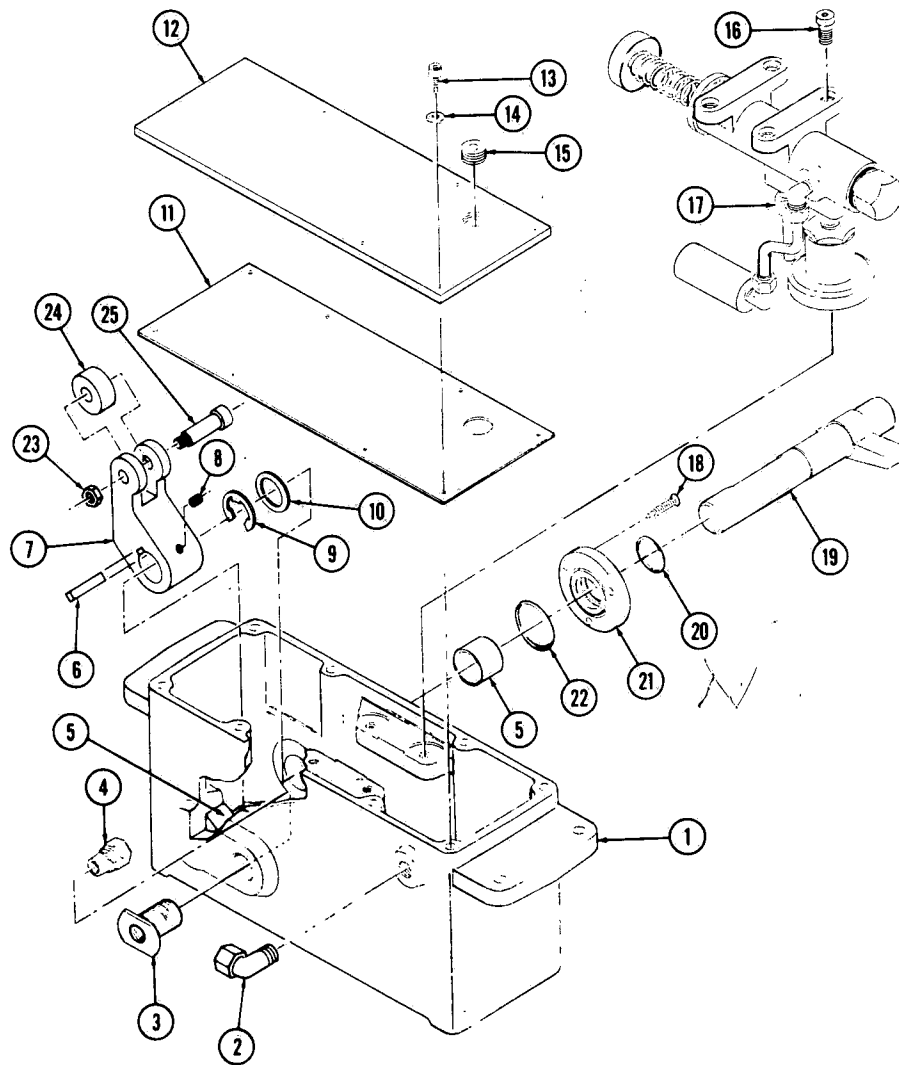

Figure 5. PUMP AND SUMP ASSEMBLY.
- Figure 5. PUMP AND SUMP ASSEMBLY.